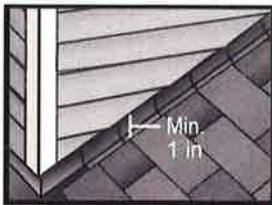

Figure 7
- When ending Artisan lap at the bottom of a window or at the top of a wall, a finishing strip similar to a starter strip may be necessary to achieve a proper plank angle. Also when cutting Artisan lap around doors, windows, or other horizontal trim applications, an additional starter strip may be necessary to achieve proper plank angle (fig. 7).